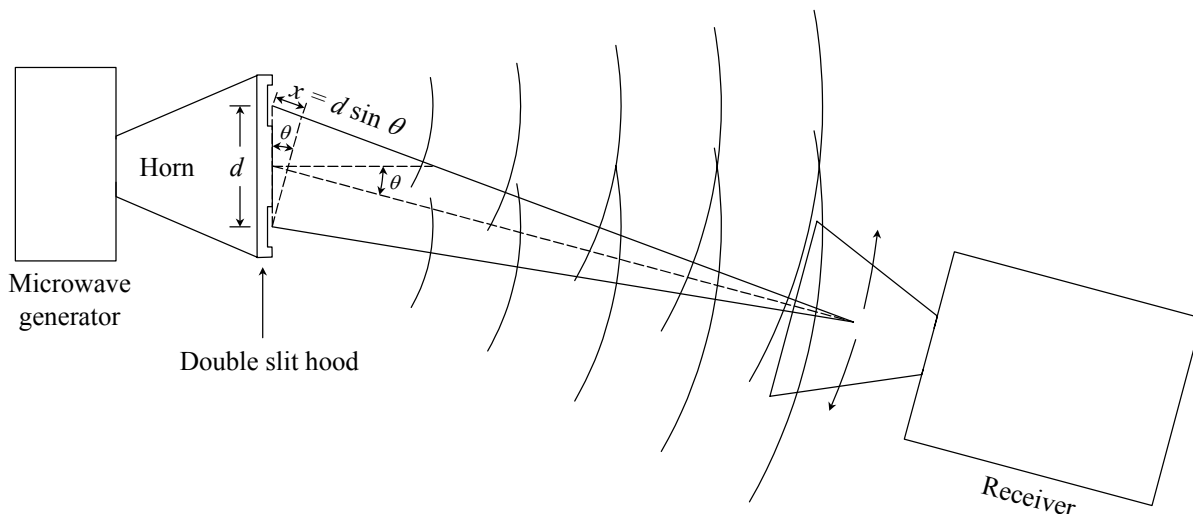

Fig. 9 Interference from the two slit hood.
3. Slide the double slit hood over the *generator's* horn, creating two coherent microwave sources as shown schematically in Fig. 9.